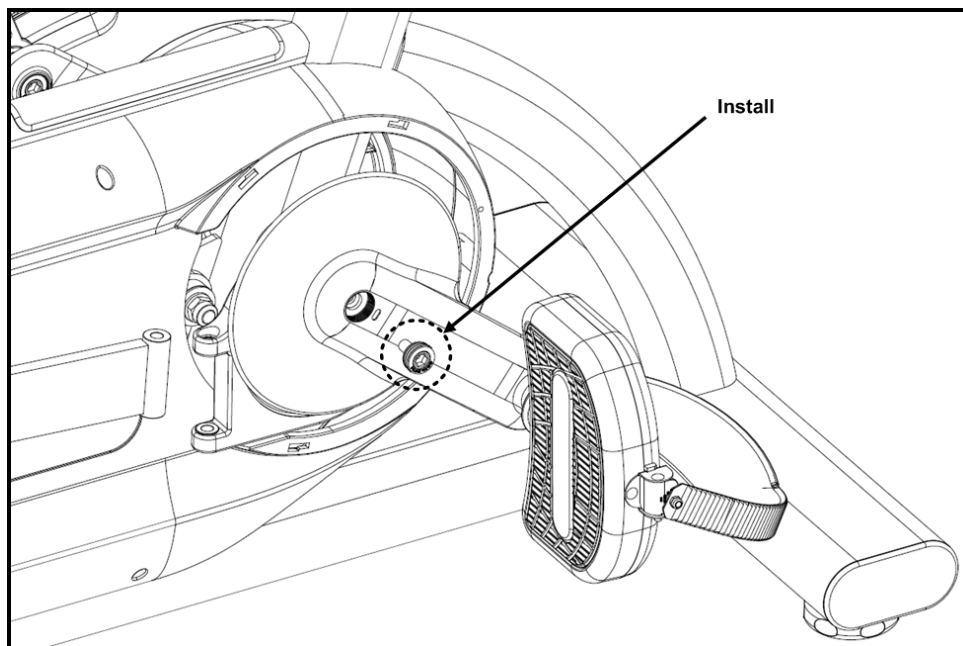

Fig. 7
7. Mount the new crank assembly (Fig. 7) onto the bottom bracket shaft and insert the specialized securing socket head bolt through each crank arm and into the bottom bracket shaft.